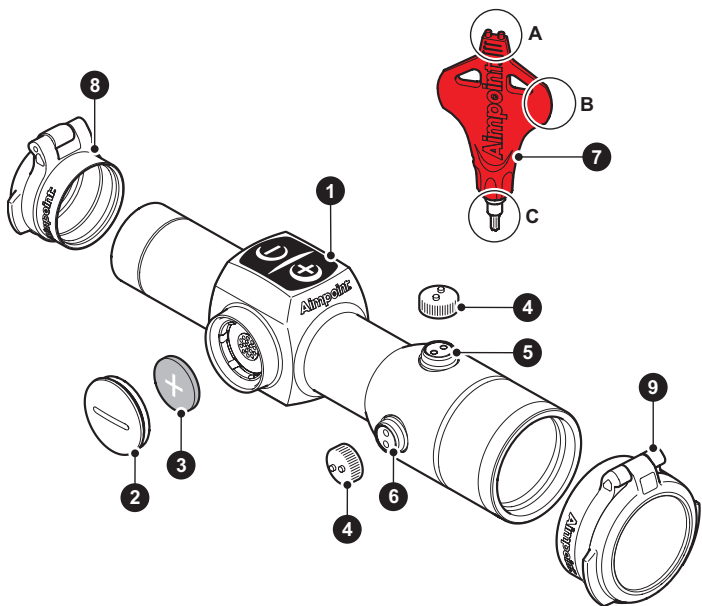

Fig. 2  1.2
See Fig. 2
- Start the sight by pushing **+** or **-** on the intensity adjustment touch pad (1) located on top of the sight.
- a Remove battery cap (2) by turning it counter clockwise using the plastic adjustment tool (7B) included with your sight.
- b Insert battery (3) with positive end (+) toward battery cap (2) as can be seen in Fig 2.